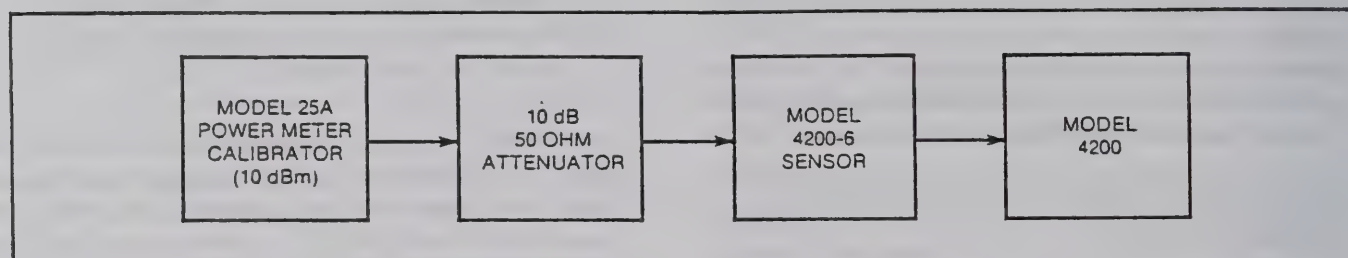

Figure 5-8. Calibration Test Setup, Model 4200-6 Sensor, +30 dBm Range
1. With the Model 25A, the instrument, and the 4200-6 sensor calibrated or checked as in paragraph a above, set the output of the Model 25A to 10 dBm and connect the equipment as shown in Figure 5-8.